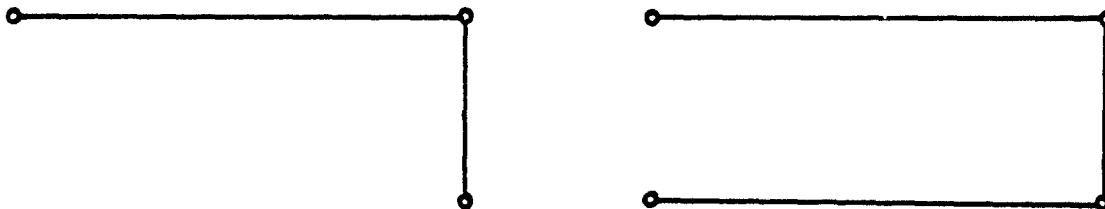

Figure 3. Cables, steps three and four
3. Turn to the right, reach the second silver ring and have someone hold it. (See Figure 3.)
4. Turn to the right again, unwind this to the silver ring and have someone hold it. (See Figure 3.)